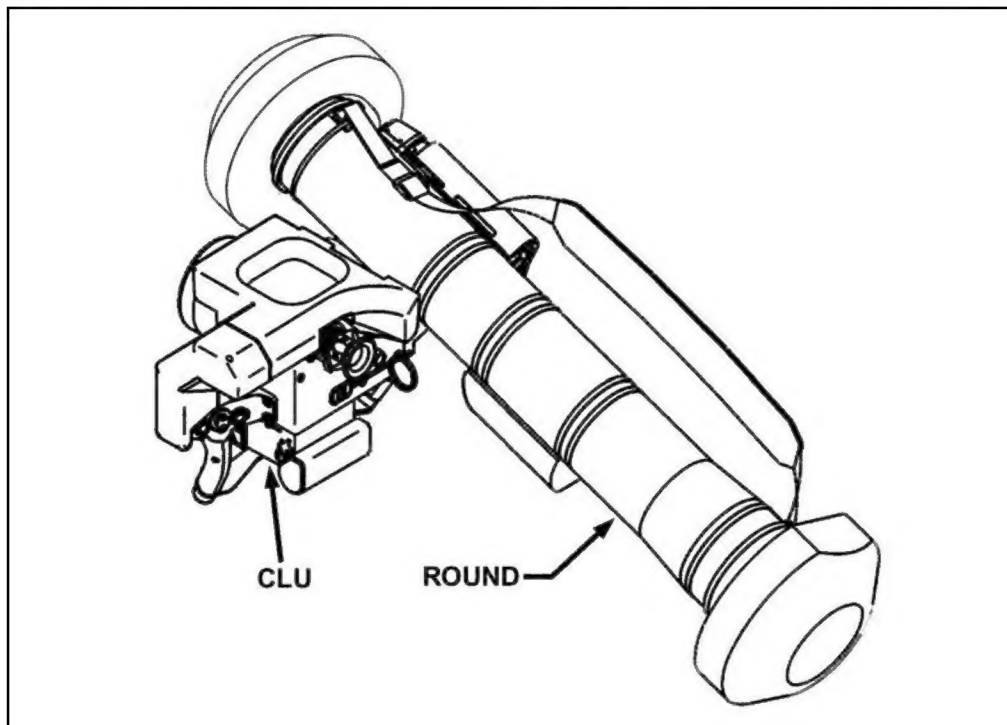

Figure 1-1. Javelin.
a. **Javelin.** The Javelin is a fire-and-forget, shoulder fired, man-portable medium antiarmor weapon that consists of a reusable M98A1 CLU and a round. The CLU houses the daysight, night vision sight (NVS), controls, and indicators. The round consists of the missile and the launch tube assembly (LTA) (Figure 1-1), and the battery coolant unit (BCU). The missile contains the guidance section, mid-body section, warhead section, propulsion section and control actuator section. The LTA serves as the launch platform and carrying container for the missile.